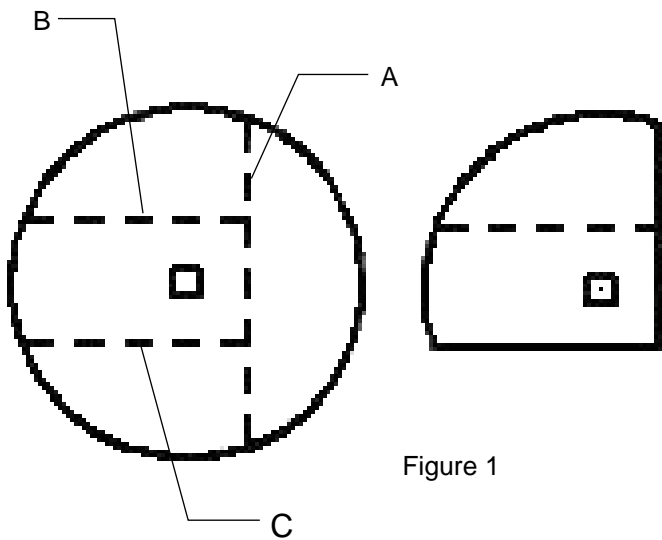

Figure 1
1. The moisture discs (006-4641H) will both need to be cut on line A. (Figure 1) One disc will need to be cut on line B and one disc on line C.